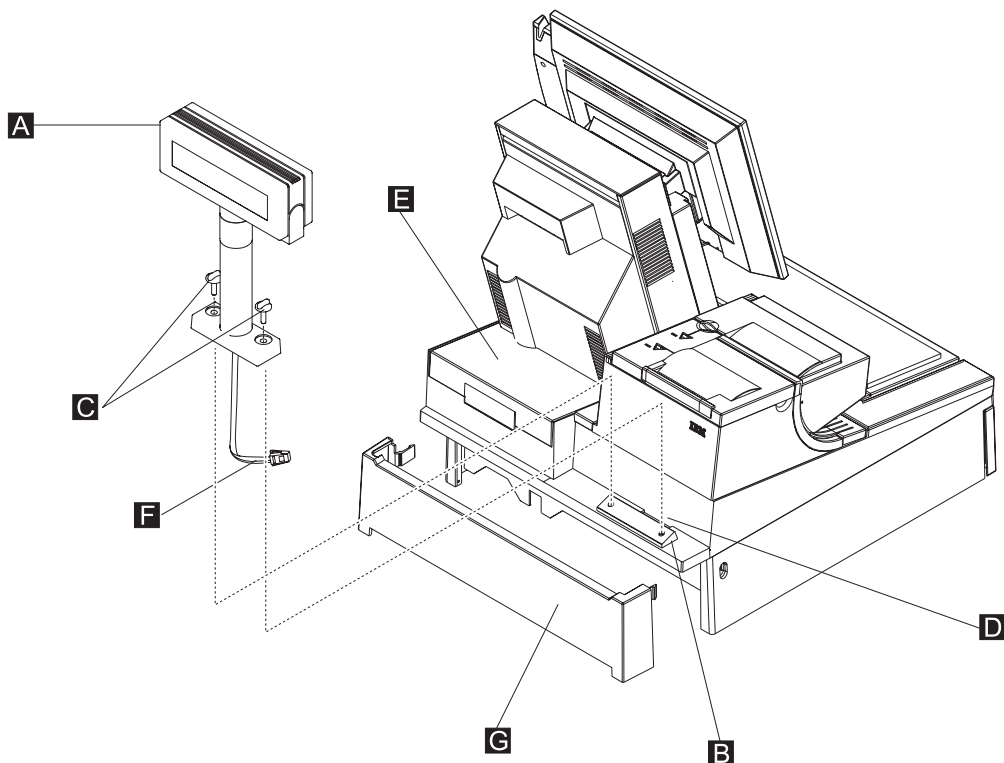

Figure 32. Installing the distributed customer display onto the integration tray
- a. Route the display cable **F** through hole **D**, as shown in Figure 32. You might need to place the display on its side to connect the display cable to the system unit rear connector panel.